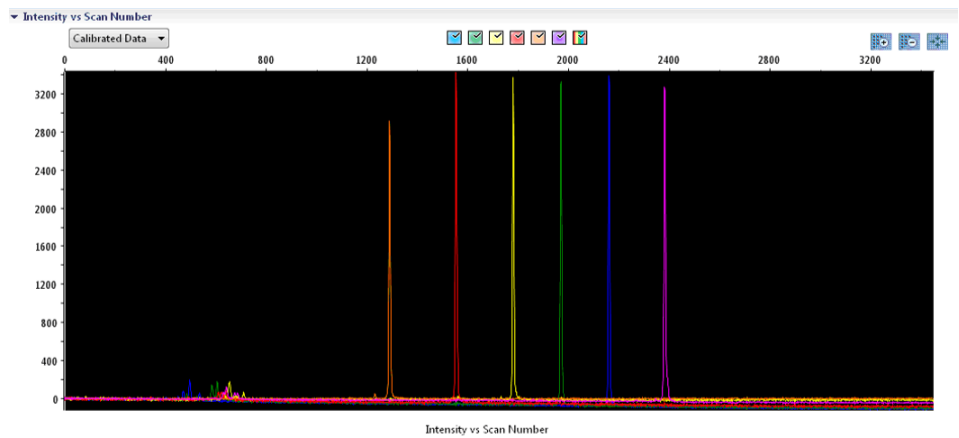

Figure 2. Electropherogram of spectral calibration of the matrix standard BT6 on Applied Biosystems 3500 Genetic Analyzer.
- Check the matrix samples for a flat baseline. As shown in Figure 2, there should be 6 peaks with heights of about 1000–6000 RFU for each matrix sample.